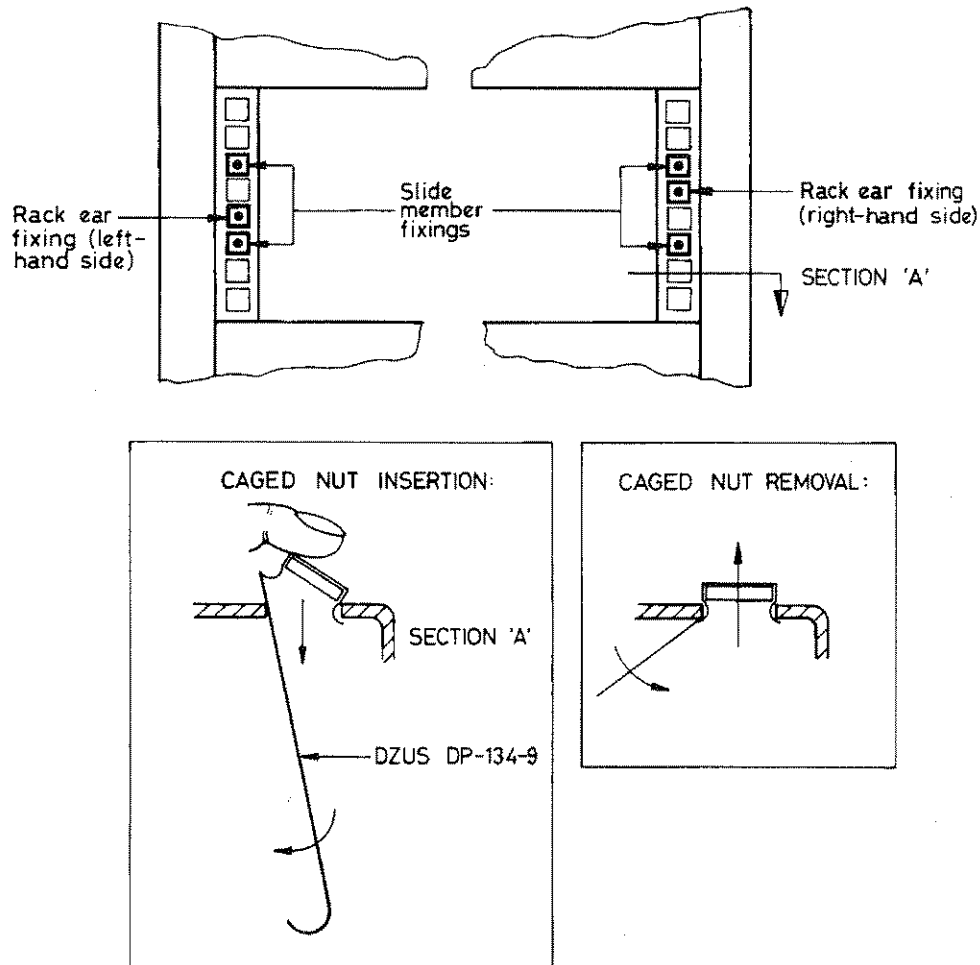

Fig A.8 Caged nut insertion in cabinets
- 5.3.4** Fit the M6 caged nuts for outer slide members and rack ear fixing into the rack, in the positions shown in Figure A.8. Details on how to insert and remove caged nuts are also shown.